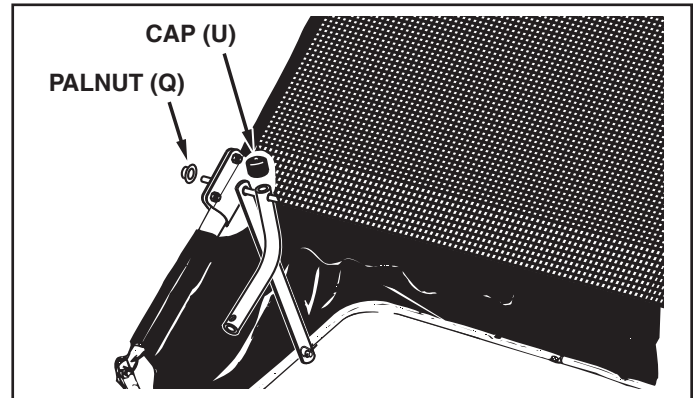

FIGURE 20
- Assemble a vinyl cap (U) onto each bag arm tube as shown in figure 20.
- Assemble two palnuts (Q) onto the ends of the pivot rod using a hammer. See figure 20.